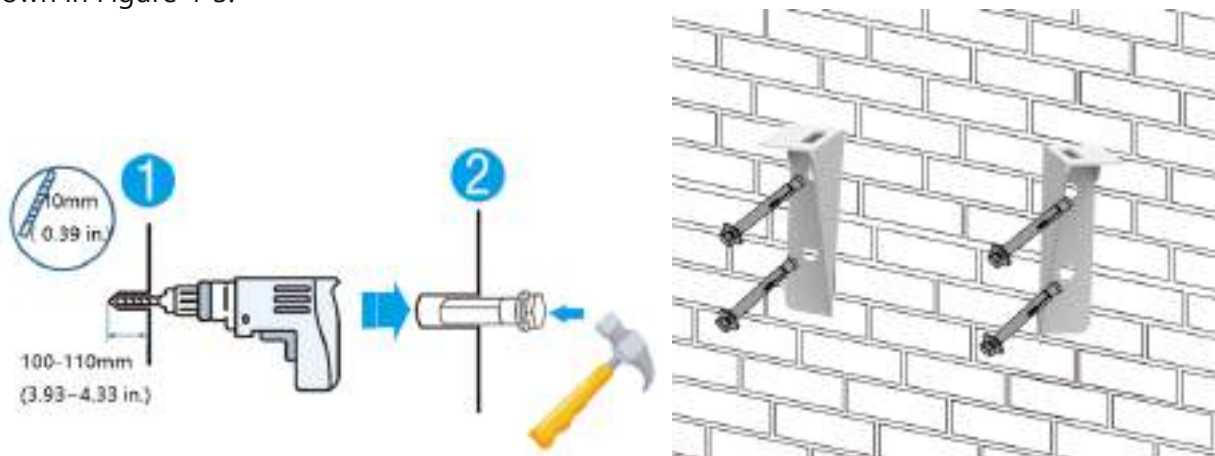

Figure 4-3
g) Choose the recommend drill head (as shown in Figure 4-3) to drill 4 holes on the wall,100mm-110mm deep.
h) Use a hammer to secure the support to the wall, and install the expansion bolt in the hole, as shown in Figure 4-3.